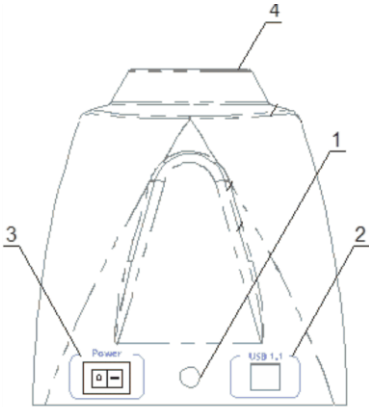

Figure 1. Rear panel
- Connect the external power supply to the socket (fig. 1/1) on the rear side of the unit;
- Connect the USB data cable to the unit (fig. 1/2) and to the personal computer;
- Insert the tube into the socket (fig. 1/4);
6.2. Turn on the unit by pressing the power switch on the rear panel (fig. 1/3).
6.3. Insert the tube into the socket (fig. 1/4).
6.6. After finishing the operation, switch OFF the unit with the Power switch (fig. 1/3).